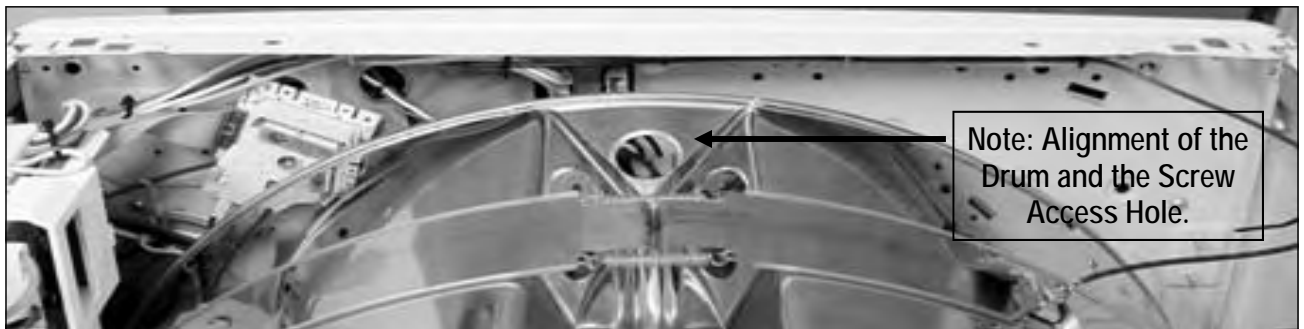

Fig. 4-1
- To remove the Control Panel, first remove the Program Selector Knob as described in Section 3. Then remove the five (5) Phillips Control Panel Mounting Screws (Fig. 4-1). There are two screws located on the right side (Fig. 4-2), two screws located on the left side (Fig. 4-4) and a single screw located in the middle. To remove the middle screw, rotate the Drum until one of the access holes lines up with the screw, now place your Phillips Screwdriver into the access well and remove the screw (Fig. 4-3).